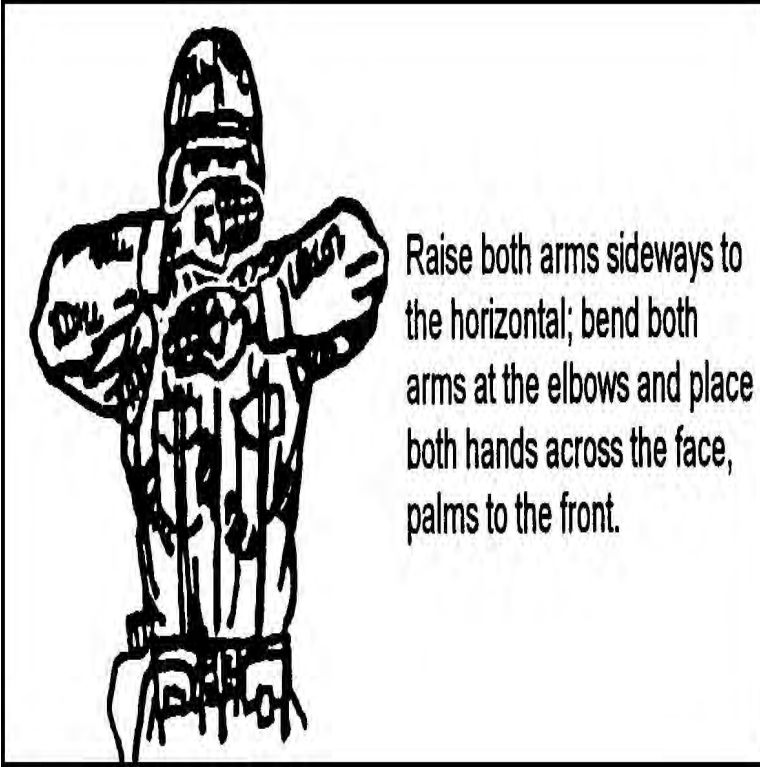

Figure 071-326-0608-20. I Do Not Understand.
- i. Perform a a start engine, or prepare to move signal (Figure 071-326-0608-21).